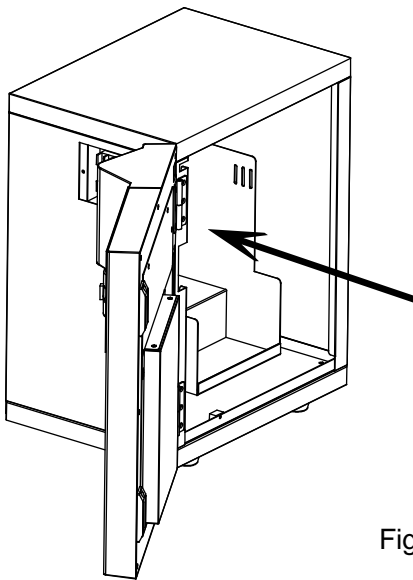

Fig. 01
- (1) Confirm that the power switch on the right side of main body is OFF and that the faucet is closed.
- (2) Install the selected ion exchange resin cartridge firmly to the resin installation plate inside the system. For installation of the ion exchange resin cartridge of WL220, provide CPC-P in the front and CPC-E in the rear. (See Figs. 01)